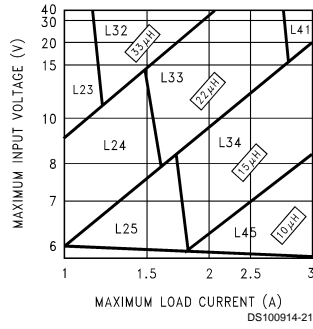
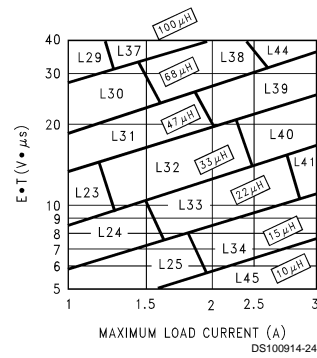

FIGURE 3. LM2676-3.3
FIGURE 6. LM2676-ADJ
Step 3: Determine the inductor required by using one of the four nomographs, *Figure 3* through *Figure 6*. Table 1 provides a specific manufacturer and part number for the inductor.
Step 5: Determine an input capacitor from Table 4 for fixed output voltage applications. Use Table 2 to find the specific capacitor type. For adjustable output circuits select a capacitor from Table 2 with a sufficient working voltage (WV) rating greater than $V_{in\ max}$, and an rms current rating greater than one-half the maximum load current (2 or more capacitors in parallel may be required).
Step 3: Use the nomograph for the 3.3V device, *Figure 3*. The intersection of the 16V horizontal line ($V_{in\ max}$) and the 2.5A vertical line ($I_{load\ max}$) indicates that L33, a 22 μ H inductor, is required.
Step 3: To use the nomograph for the adjustable device, Figure 6, requires a calculation of the inductor Volt•microsecond constant (E•T expressed in V•μS) from the following formula:
Using Figure 6, the intersection of 27V•μS horizontally and the 2A vertical line (I_{load max}) indicates that L38, a 68μH inductor, should be used.
Important Note: When using the adjustable device in low voltage applications (less than 3V output), if the nomograph, Figure 6, selects an inductance of 22μH or less, Table 6 does not provide an output capacitor solution. With these conditions the number of output capacitors required for stable operation becomes impractical. It is recommended to use either a 33μH or 47μH inductor and the output capacitors from Table 6.